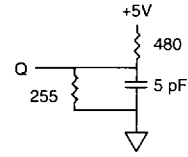

Fig. 2 OUTPUT LOAD EQUIVALENT
- t'_{HZCE}, t'_{HZOE} and t'_{HZWE} are specified with CL = 5pF as in Fig. 2. Transition is measured ±500mV from steady state voltage.